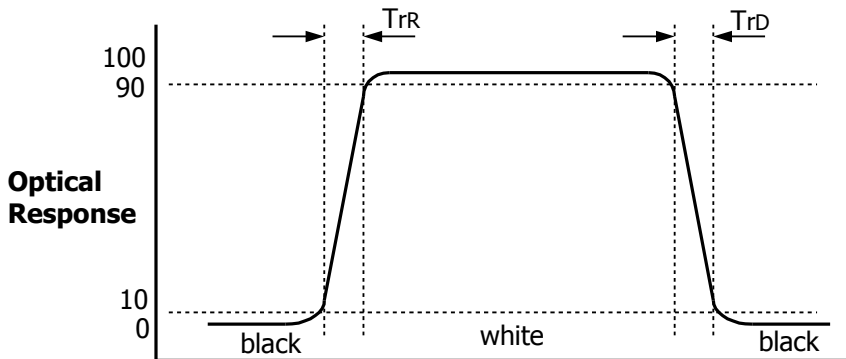

FIG. 3 Response Time
4. Response time is the time required for the display to transition from black to white (Rise Time, Tr_r) and from white to black (Decay Time, Tr_d). For additional information see FIG 3.